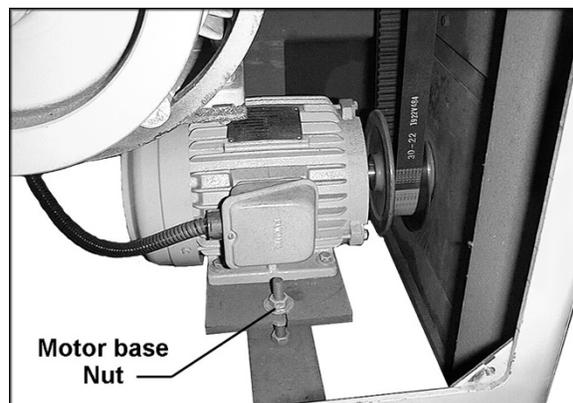

Figure 12
2. Open lower back panel and loosen nuts on the motor base (Fig. 12). Adjust motor base up or down as needed, then tighten nuts. Proper tension is achieved when there is a small amount of deflection by using finger pressure on the belt midway between the pulleys.